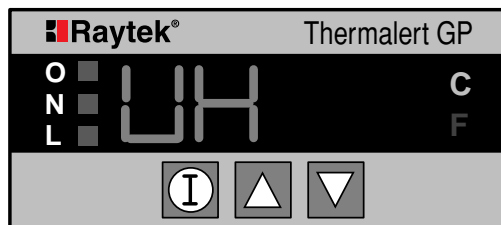

Figure 16: Valley Hold Display
4. Press the  button again and the Valley Hold display (Figure 16) appears.